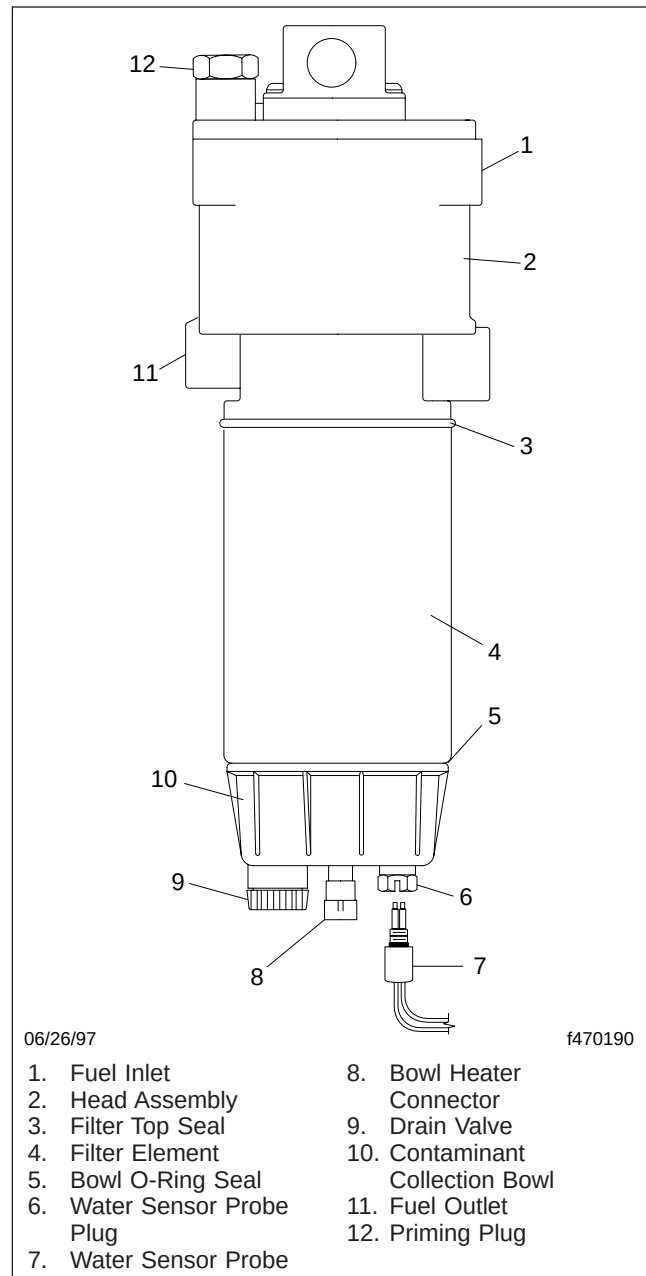

Fig. 7, Racor 6400 Fuel Heater/Water Separator
1. Disconnect the water sensor probe connector and bowl heater connector, if equipped. See Fig. 7.